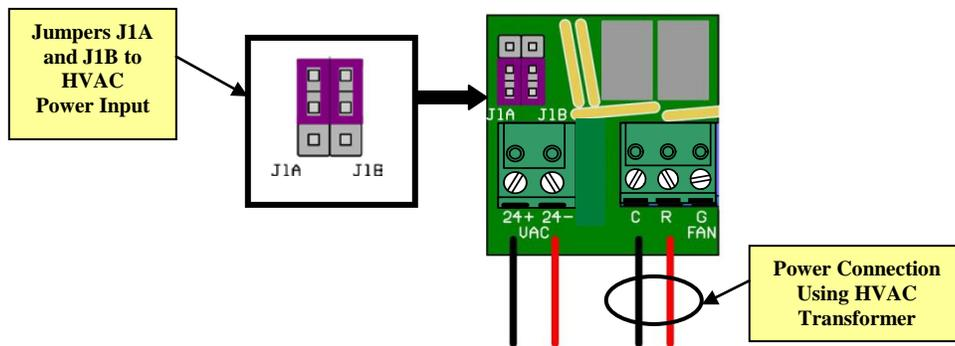

Figure 3: Settings & Connections for Power the RTU from the HVAC
Step 1: Set J1A and J1B jumpers for C / R thermostat power by moving the jumpers to the up position (Figure 3).
Step 2: Connect the red or 24VAC power leads to the R connector on the RTU and the common to the C (Figure 3). Use a minimum of 18 AWG wire for powering and control.